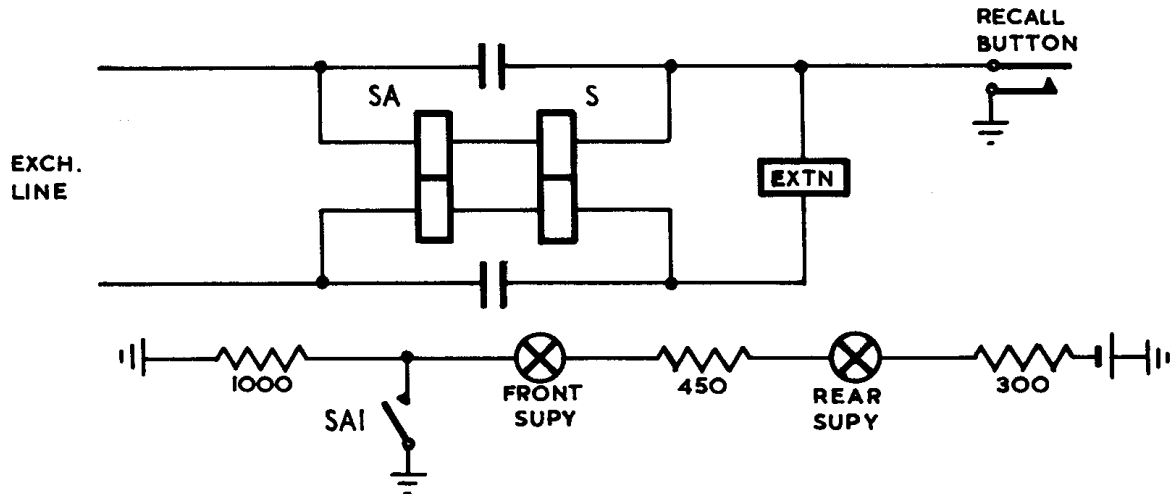

FIG. 16. RECALLING OPERATOR.
- 6.5 Recall Facility on Exchange to Extension Calls. On extension to exchange calls, any extension telephone fitted with an earthing type recall button is able to recall the operator without releasing the exchange line. When the extension alternately presses and releases the recall button, an earth is intermittently placed on one side of the extension line. The current through the two differentially connected windings of relay SA is unbalanced, and relay SA operates (Fig. 16).